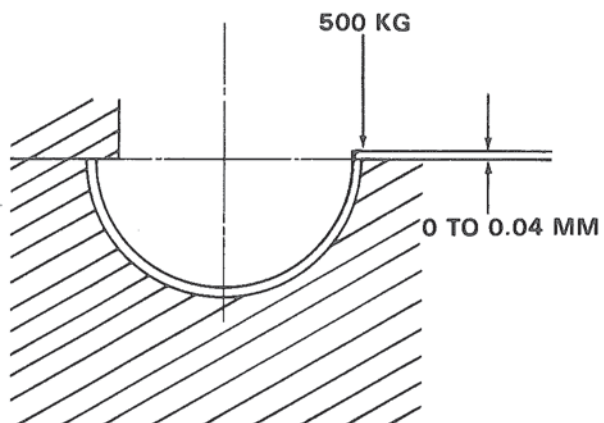

Figure 41. Main Bearing Fitting.
3. Maintain load and check bearing projection above centerline. Bearing must be flush to 0.04 mm. above centerline. Figure 41.